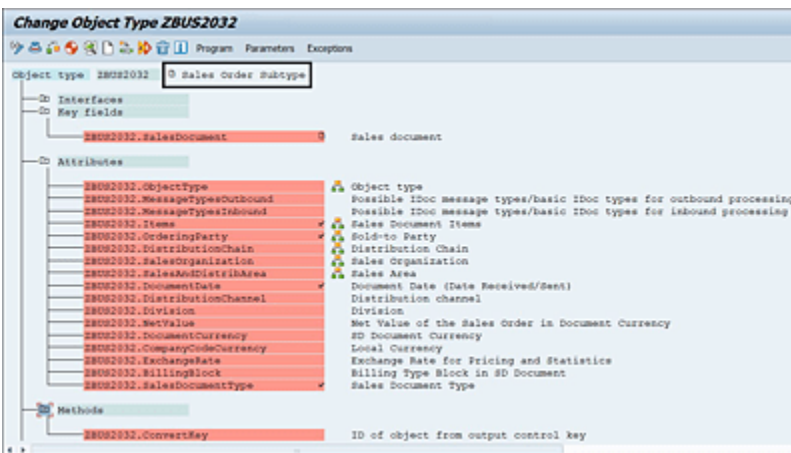

Figure 3.53 Subtype Definition Showing Inherited Components and Header Release Status
3. Figure 3.53 shows the **Change Object Type** screen where all the inherited components from the supertype appear in red in the subtype, and new components or redefined components in the subtype appear in white.